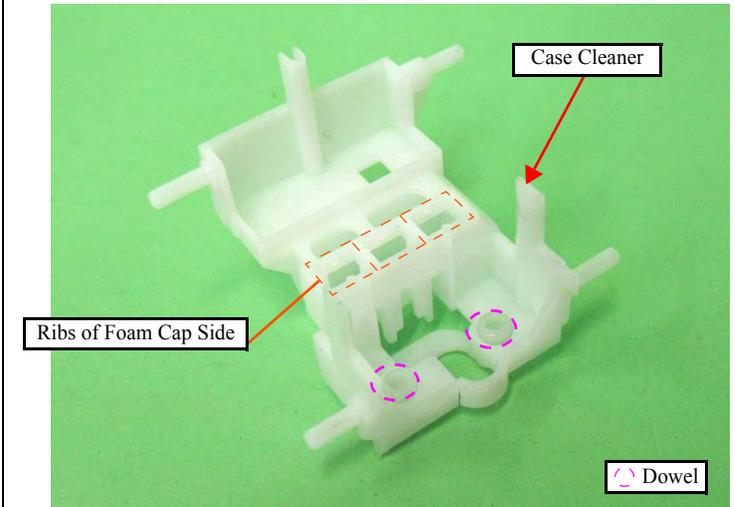

Figure 4-61. Assembling the Cap Assy (1)
- When installing the Foam Cap Side, align the notches of the Foam Cap Side with the ribs of the Case Cleaner, and insert them without any gap. (See Fig.4-61.)